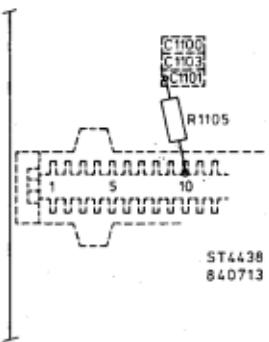

Fig. 9.2.
2. For instruments with a serial no. between DY 01 2411 and DY 01 3610, R1105 is mounted on the solder side of the panel (Fig. 9.2.).